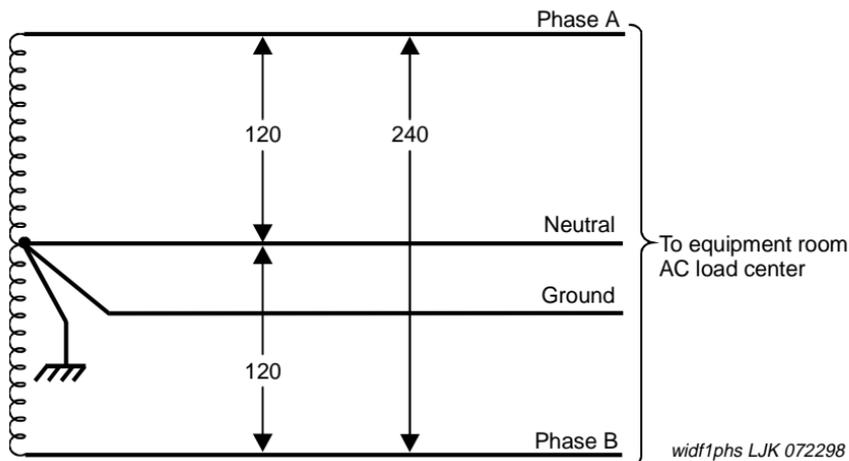

Figure 18. Single-Phase, 120/240 VAC, 60 Hz Source
- Single-phase, 4-wire, 120/240 VAC. See Figure 18.